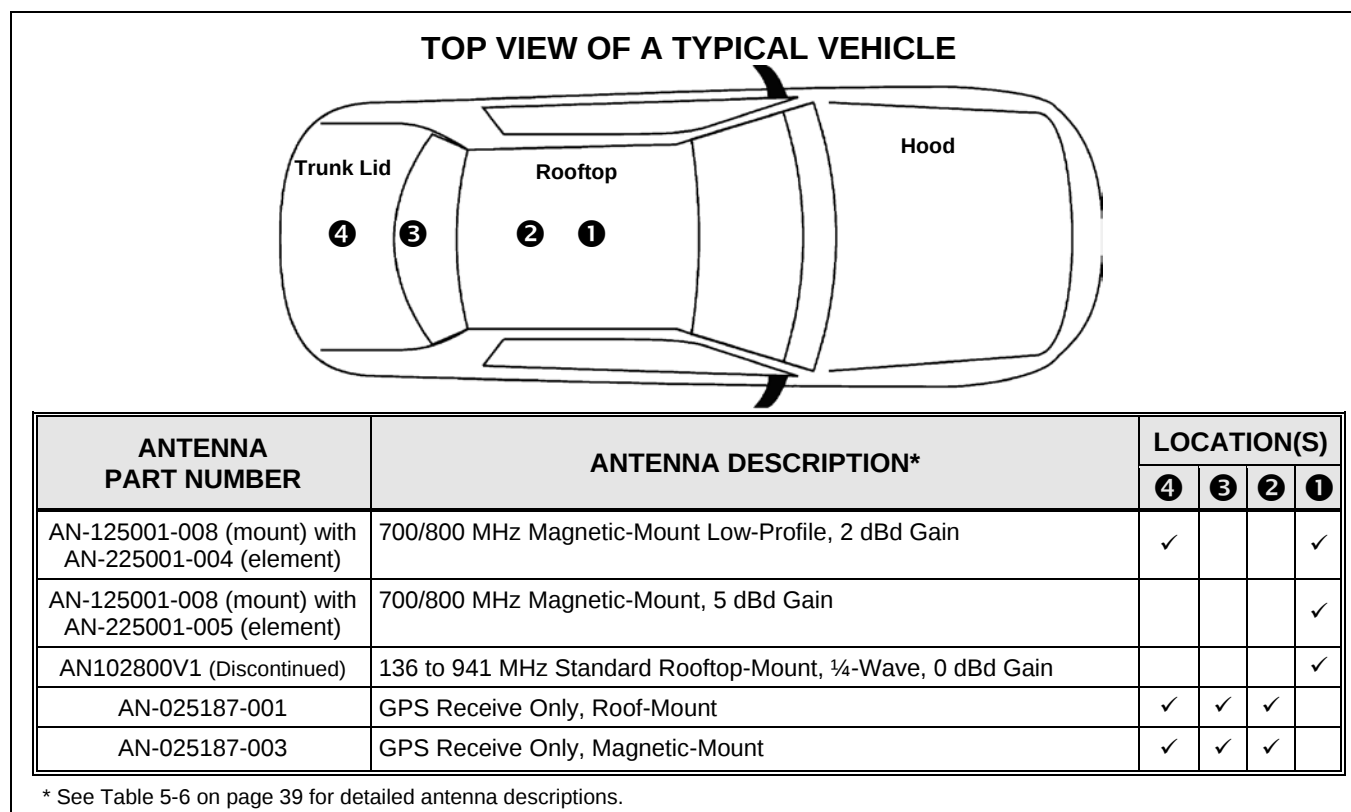

Figure 7-4: Recommended 700/800 MHz Antenna Mounting Locations with Antenna Part Numbers
- For a 700/800 MHz Radio: See Table 1-5 and Figure 7-4.
Antennas must be mounted in one of four (4) possible locations on the vehicle. Figure 7-1 through Figure 7-4 shows the recommended locations and antenna part numbers. Also, see Table 5-6 for additional information. Always follow the antenna manufacturer's instructions when mounting an antenna.
Table 5-6 (page 39) and Figure 7-1 through Figure 7-4 list the mobile radio antennas available for use with the respective radio. As presented in the previous section, various mounting locations exist. Optimal performance is achieved via a rooftop antenna mounted in the direct center of the motor vehicle's roof.